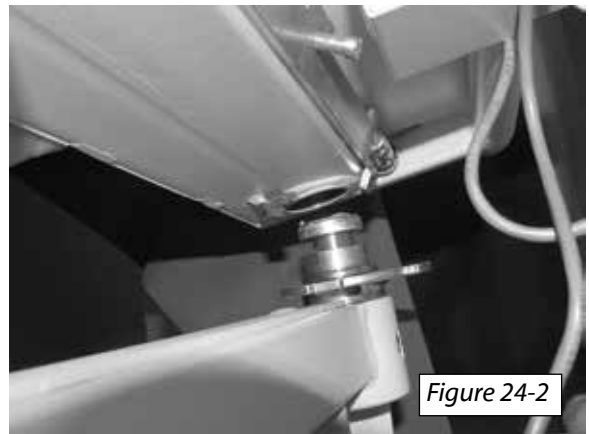

Figure 24-2
5. Line up the post holes on the seat with the post holes on the chassis. Push the swivel handle downward and slide the seat onto the rooster post. *[Figure 24-2]*